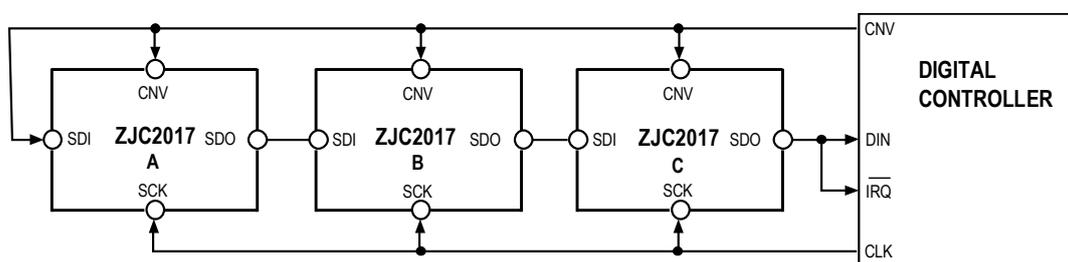
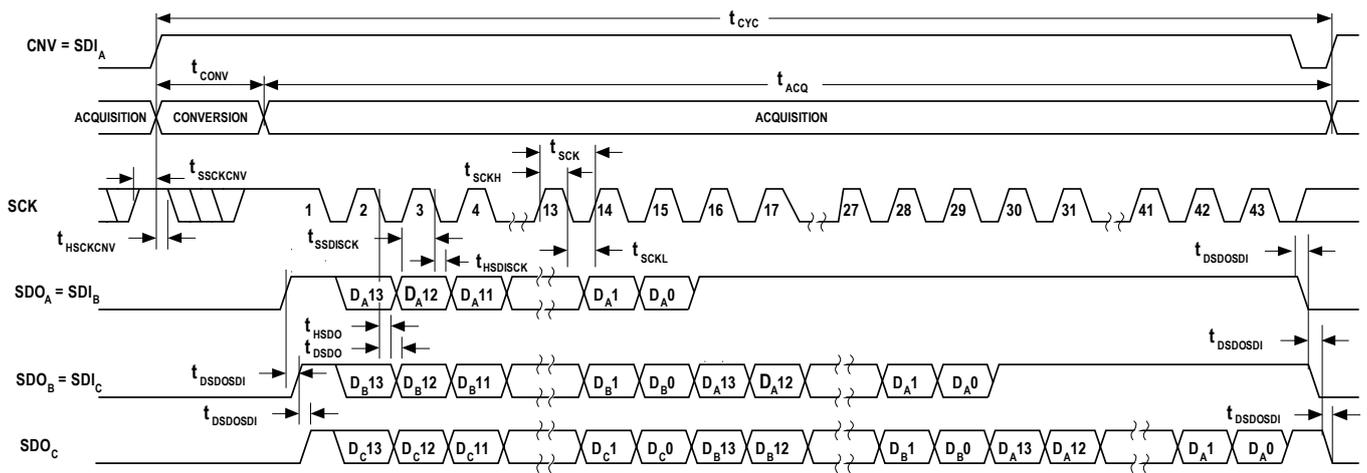

Figure 46. Chain Mode (with Busy Indication) Connection Diagram
Figure 47. Chain Mode (with Busy Indication) Serial Interface Timing
- In chain mode, SCK is high during the rising edge of CNV (see Figure 47).
An example using three ZJC2017s is shown in Figure 46, and the corresponding timing is shown in Figure 47.
When SDI and CNV are low, SDO goes low. With SCK high, a rising edge on CNV initiates a conversion, selects chain mode, and enables the busy indicator feature. In this mode, CNV remains high during the conversion phase and subsequent data readback. After all the ADCs in the chain have completed their conversions, drive the SDO pin of the ADC closest to the digital host (see Figure 46). This transition on SDO can be used as a busy indicator to trigger data readback. ZJC2017 then enters the acquisition phase and is on stand-by. The remaining data bits stored in the internal shift register are clocked out MSB first on subsequent SCK falling edges. For each ADC, SDI feeds the input of the internal shift register and is clocked out by SCK falling edge. Each ADC in the chain outputs data MSB first, and $14 \times N + 1$ clocks are required to read back N ADCs.